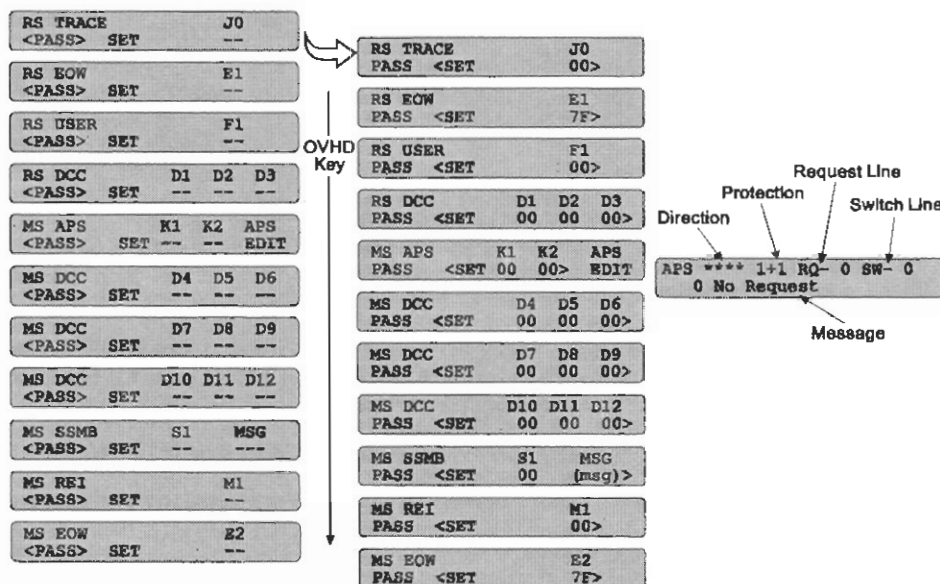

Figure 3–17 Transmitter Overhead (SDH)
The transmitter overhead byte menus can be used to pass or change the 2.4 Gb/s signal overhead bytes, in the first column of the STM-1. The transmitter OVHD (overhead) key is used to scroll through the Regenerator Section (RS) and Multiplexer Section (MS) overhead bytes shown on the left side of Figure 3–17. The top line of each display identifies the designated SDH overhead byte. The bottom line is used to either PASS or SET (change) the value. When the cursor is on PASS the byte is hidden. When the cursor is moved to SET the byte value is displayed and the enter key LED starts to flash. Use the arrow keys to move the cursor, and the INC and DEC keys to change values. Pressing the enter key or the overhead key will store the value.
Select the EDIT command from the MS APS menu to access and change the Automatic Protection Switching bytes illustrated on the right side of Figure 3–17. Position the cursor over the word EDIT, press the enter key and the APS menu in will be displayed. Use the